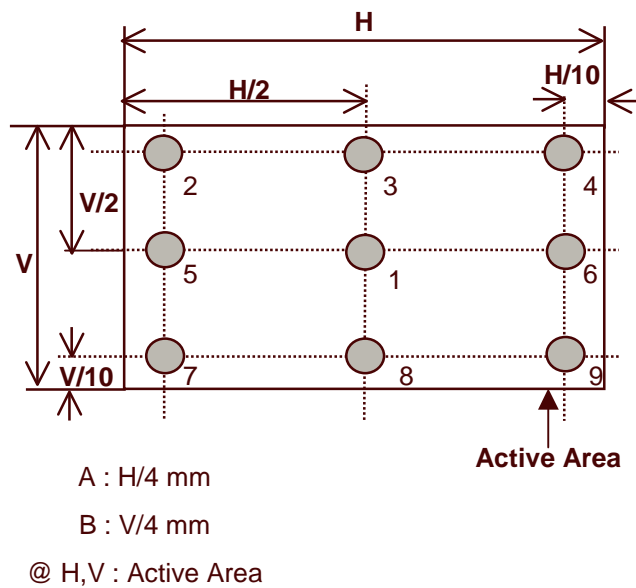

FIG. 2 Measure Point for Luminance
2. Surface luminance is the luminance value at center 1 point(1) across the LCD surface 50cm from the surface with all pixels displaying white. For more information see FIG 2.
For more information see FIG 2.